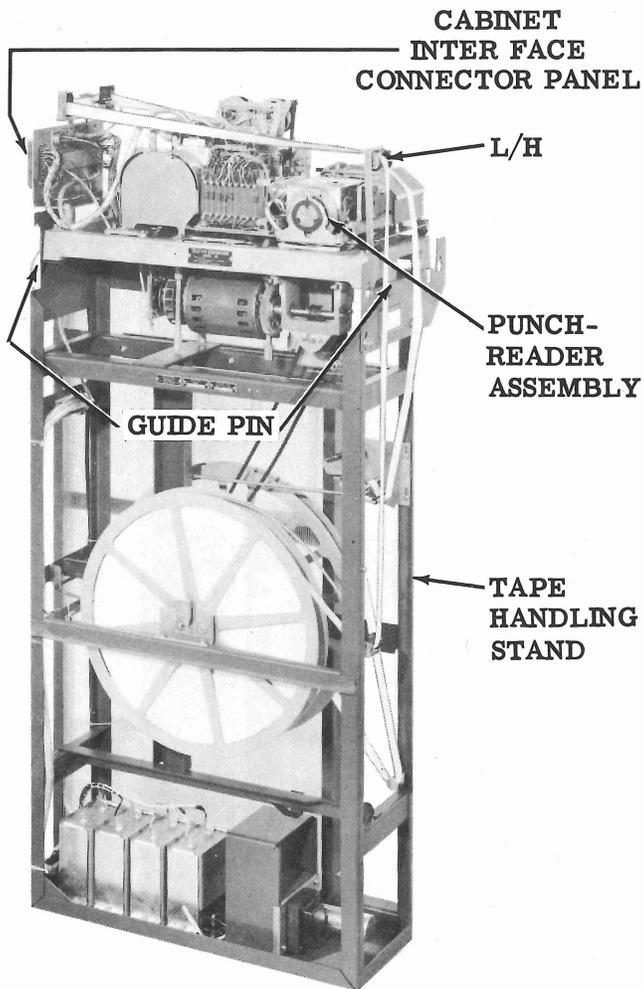

Figure 18 - Left Side, L/H
- (1) Dual H/L Cabinet with electronic modules.
- (2) Two tape handling stands.
- (3) Two punch-reader assemblies.
- (4) Two tape bins.
9. PUNCH-READER SET (Figure 18)
(1) Lift the base onto the cabinet cradle making sure the locating pins on the cradle enter the holes in the bottom of the base. (Figures 18 and 21.)